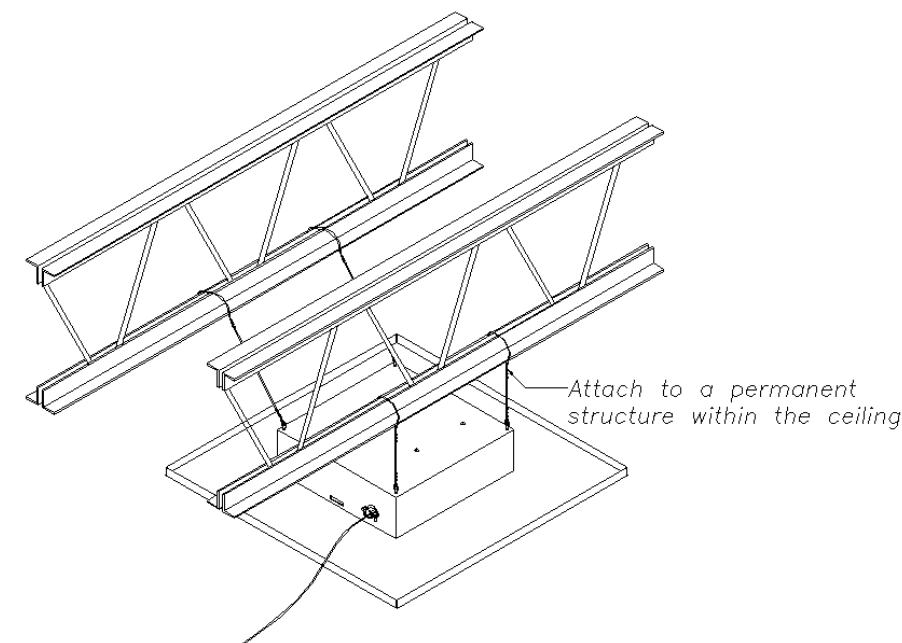

Figure 4 - View showing enclosure installed in ceiling grid.
Step 5 – Use minimum 12-gauge grid wire to secure the *access point enclosure* in the ceiling grid. Attach one end of the wire to the *eyebolts* and the other end to a permanent structure within the ceiling such as a ceiling joist (Ref. *Figure 4*).